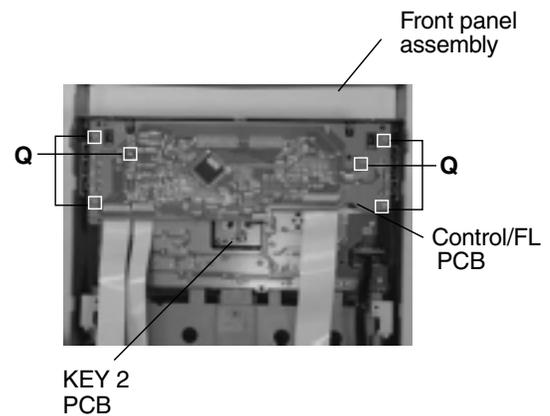

Fig.21
### ■ Removing the control/FL PCB (See Fig.21)
5. Remove two screws **S** retaining the sound mode and CD function (key 2) switch PCB.(Fig.21)